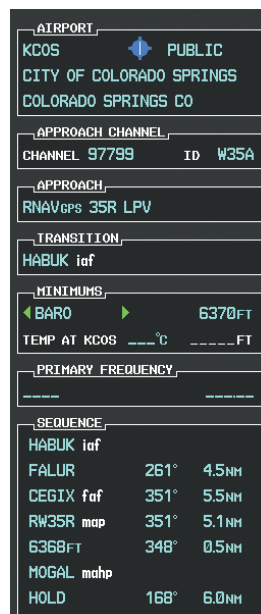

Figure 5-135 Barometric Minimums Set
h) Barometric Minimums (Figure 5-135)